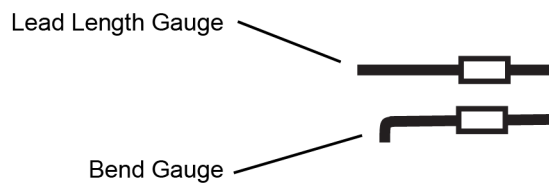

Figure 64 Trim Gauge
- a Place a resistor over the lead length gauge shown in **Figure 64**. Trim the leads to match the drawing. The orientation of the lead is not important.